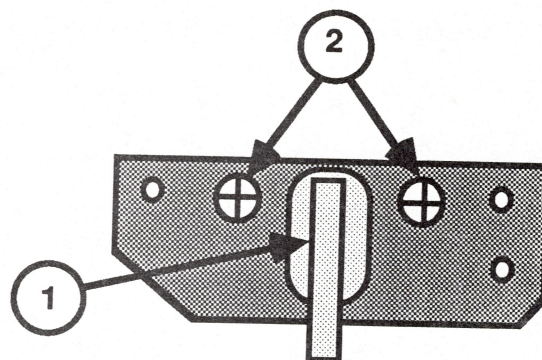

FIGURE 25
6. Pull the plastic switch button (Figure 25, #1) off the switch assembly.
7. Remove the two screws (Figure 25, #2) which secure the on/off switch to the metal bracket.
2. Replace the two screws (Figure 25, #2) to secure the on/off switch to the metal bracket.